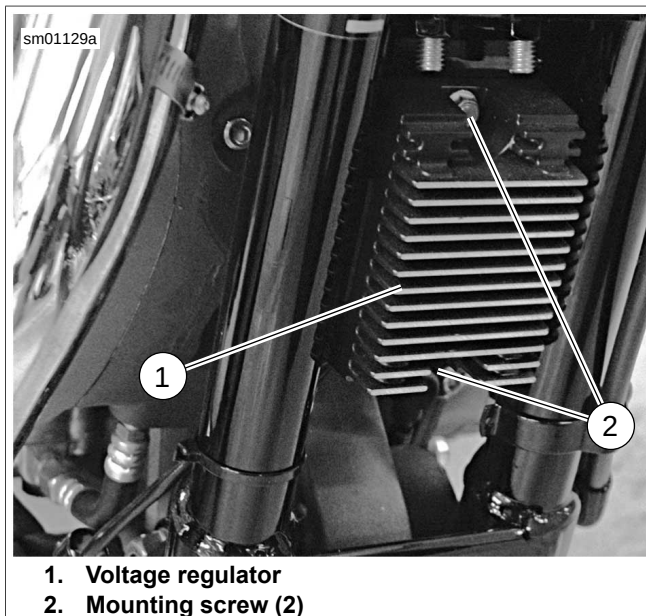

Figure 6-91. Voltage Regulator Location
4. See Figure 6-91. Remove screws (2) from locations at top and bottom of voltage regulator. Remove regulator from vehicle, carefully threading harnesses through opening in regulator mounting bracket.